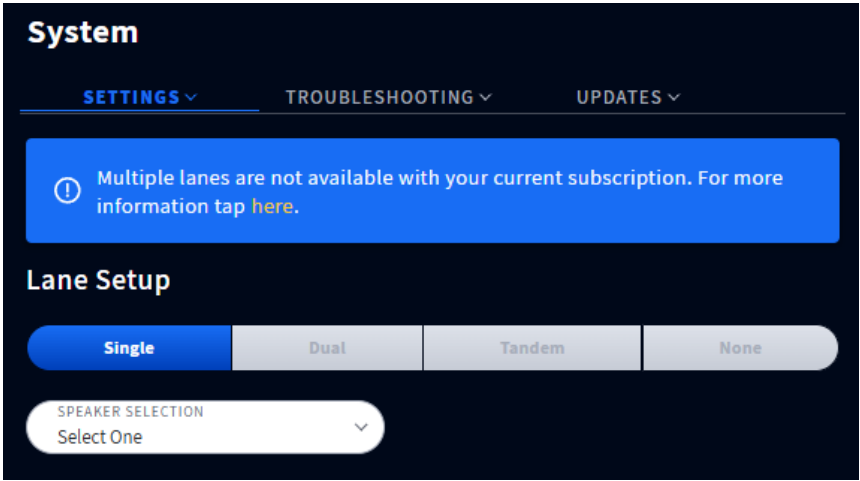

Fig. 1.5
**Grayed-out or unavailable features:** Depending on your tier service, some features may not be available. When you tap/click on an unavailable feature, a dialog box like the one in Fig. 1.5 will appear. In this example, the service only covers a Single Lane. If your store expands to include another lane, you can request a service upgrade to enable the Dual Lane configuration. Follow the prompt in the dialog box to upgrade. System tiers are also covered in the Help chapter of this guide (see “System Tiers” on page 41).